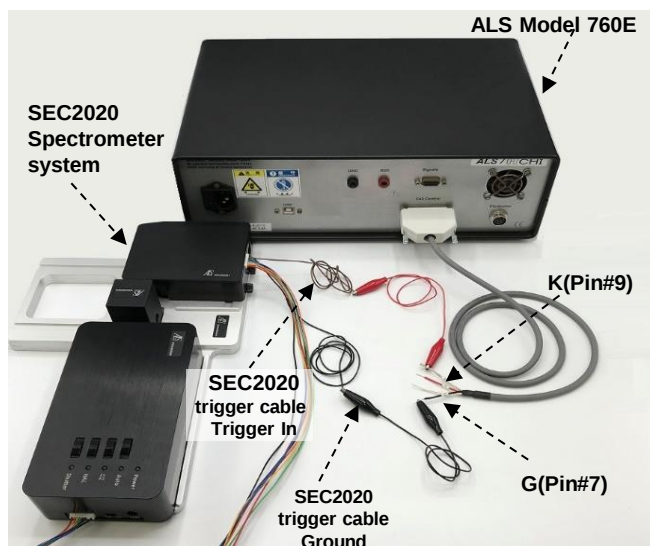

Figure 3-1 Trigger connection of ALS Model and SEC2020
- Figure 3-1 is an example of trigger connection for ALS Model 760E and SEC2020 Spectrometer system.
- Check the pin labels on the wire and connect K(Pin#9, Spectrometer Control), G(Pin#7,Ground), with the trigger cable Trigger In (brown), trigger cable Ground (black) attached to SEC2020 respectively. Please refer to Figure 3-1 and Table 3-1.